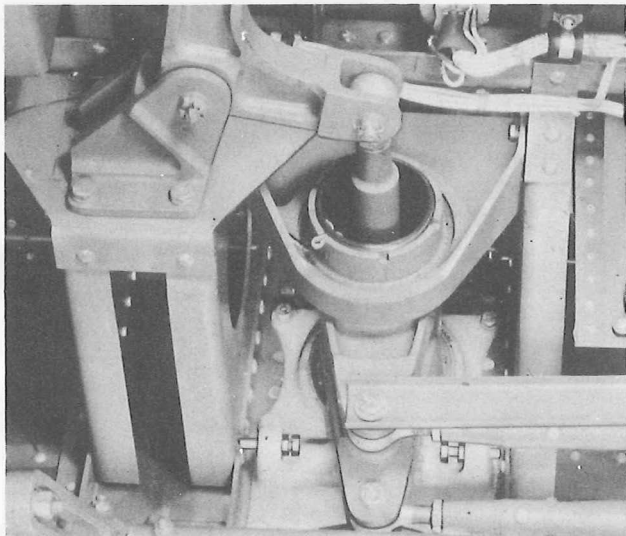

Figure 2-59. Cyclic Control Stick Lateral Stops
o. Unlock the collective pitch control, move it to the low pitch position and lock it in place. Remove the  $\frac{1}{4}$  x 10 inch rigging pins from both cyclic control stick socket and yoke assemblies (5 and 71, figure 2-38) and the  $\frac{3}{16}$  x 6 inch rigging pins from both cyclic control bell cranks (1 and 82) in the clutch compartment. Back off both sets of cyclic control stick lateral stops. (See figure 2-59.) Move the cyclic control stick to the extreme left position until the lateral control power piston in the auxiliary servo unit bottoms. Check for a left lateral cyclic control stick reading of  $-2$  degrees  $\pm\frac{1}{2}$  degree with a bevel protractor at the main rotor blade attachment lugs with the blade pitch control rod assembly directly over the left-hand lateral main rotor servo unit. Adjust both left lateral cyclic stick stops in the clutch compartment to a 0.010 inch clearance. Lockwire the stops. Move the cyclic control stick to the extreme right position until the lateral control power piston in the auxiliary servo unit bottoms. Check for a right lateral cyclic control stick reading of  $+16$  degrees  $\pm\frac{1}{2}$  degree with a protractor at the main rotor blade attachment lugs with the blade pitch control rod assembly directly over the left-hand lateral main rotor servo unit. Adjust both right-hand lateral control stops in the clutch compartment to a 0.010 inch clearance. Lockwire the stops.